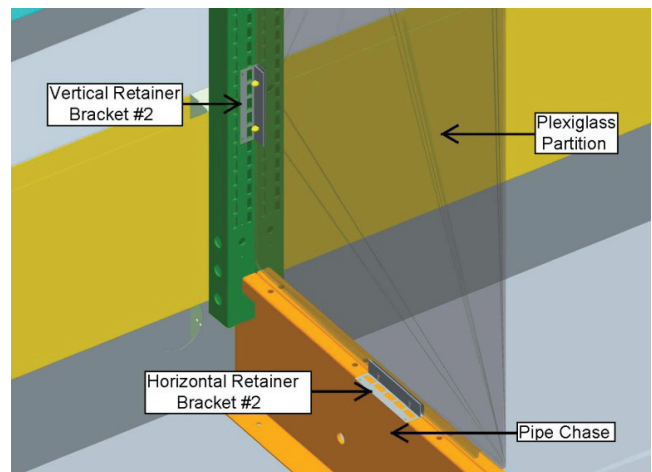

Figure 2: Bottom of Plexiglas
Step 3: Slide Horizontal Retainer Bracket #2 onto the bottom of the Plexiglas partition as shown in figure 2. Align the partition parallel to the pipe chase and secure the bracket by drilling directly into the pipe chase using the supplied tek screws. Slide Horizontal Retainer Bracket #1 onto the top of the Plexiglas partition and secure it to the top flue of the case using the supplied tek screws. Secure the partition using the retainer bolts and nuts in the horizontal retainer brackets as done in step 2.